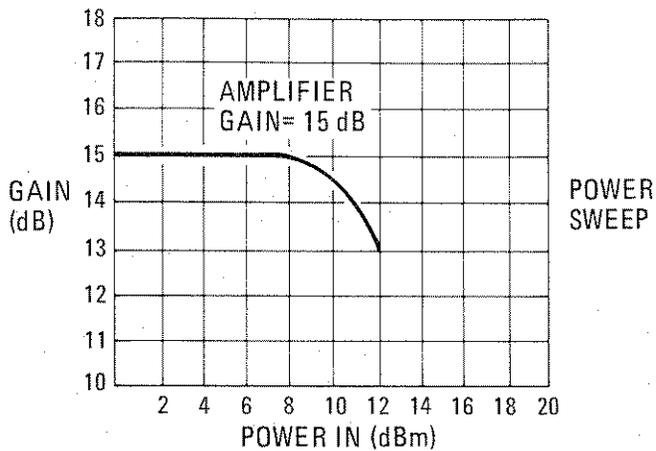

Figure 3. Gain Compression Display
**Power Sweep.** The RF output power may be ramped up by using the POWER SWEEP function. See Figure 3 for a gain compression display using power sweep.